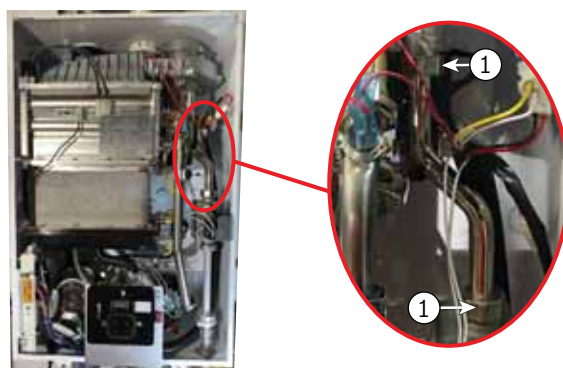

Figure 121
5. See Figure 121. Separate the fan connection terminal (Item 1), solenoid valve terminal (Item 2), overhear prevention device wire (Item 3), and heat exchanger temperature sensor (Item 4).